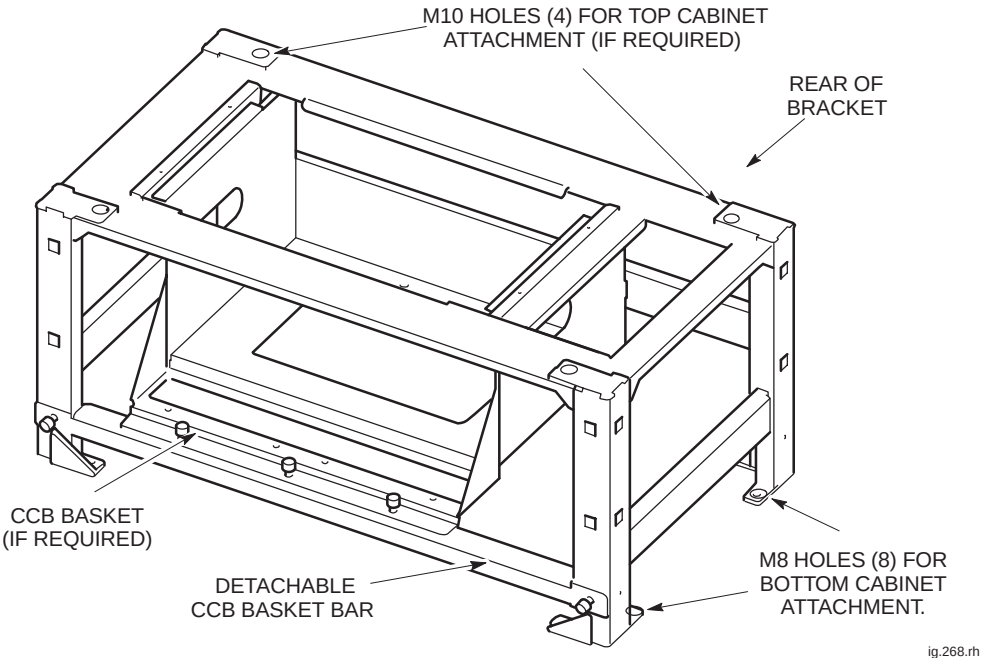

Figure 2-7 View of stacking bracket with optional CCB basket installed
- 1. Locate the four top panel M8 screws to be replaced by hood pins, as shown in Figure 2-7, and remove.
Remove the eight (or four remaining) M8 screws form the cabinet top panel as shown in Figure 2-7 and retain.
Figure 2-7 shows a stacking bracket fitted with optional CCB basket.